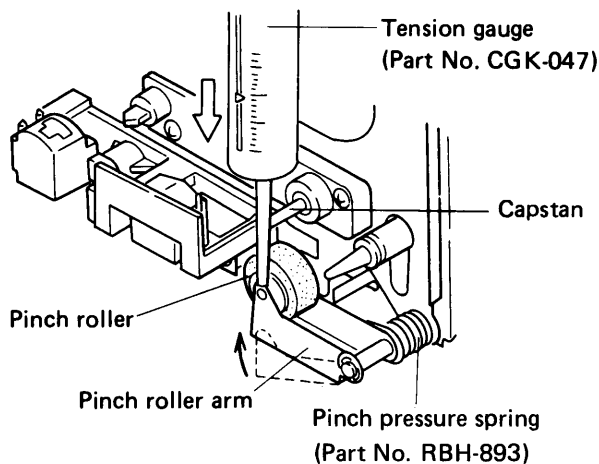

Fig. 12-1 Pinch roller pressure adjustment
2. Gently push against the pinch roller arm with a tension gauge (service part no. GKG-047) and separate the pinch roller slightly from the capstan. (See Fig. 12-1).